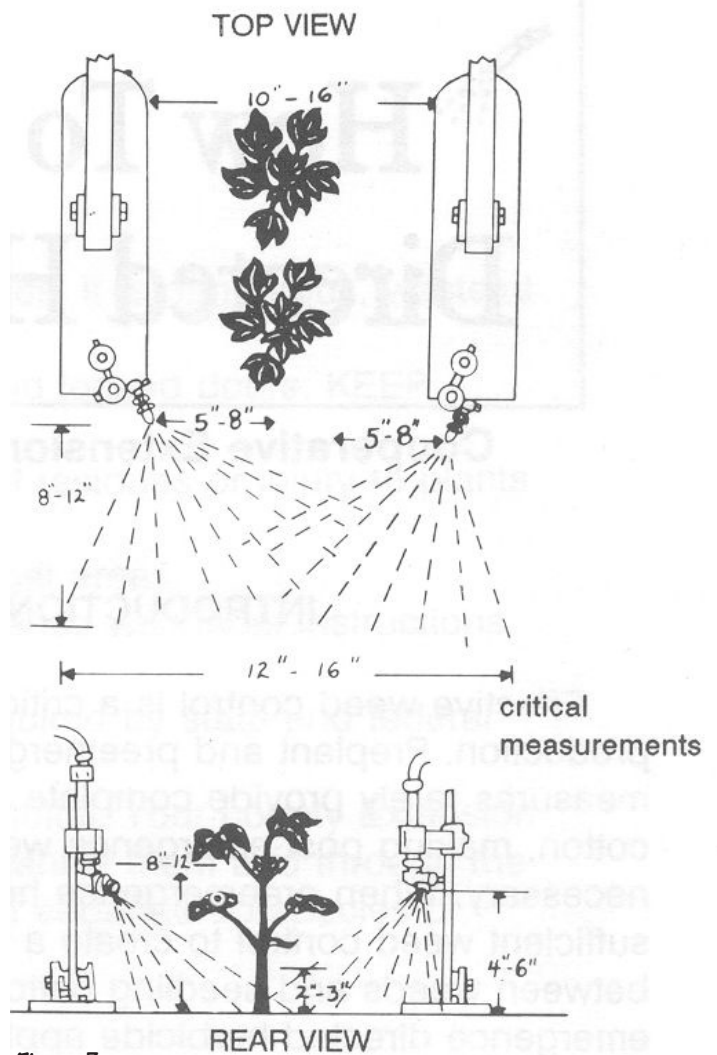

Figure 3
* Precise directed herbicide application on rough, uneven surfaces is difficult. Under such conditions, minimize spray overlap and contact with young cotton stems. Aim spray patterns to the base of the stems to reduce the potential for excessive coverage and cotton injury (Figure 3).